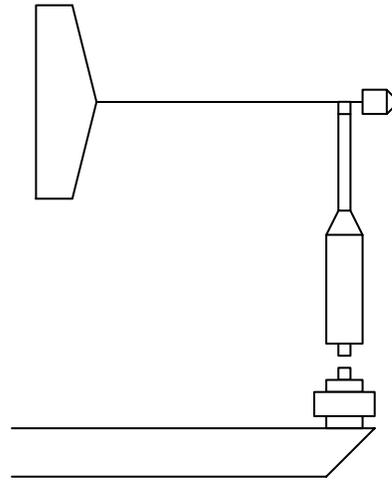

Figure 1
2.0 INSTALLATION (Refer to Fig 1 & 2)